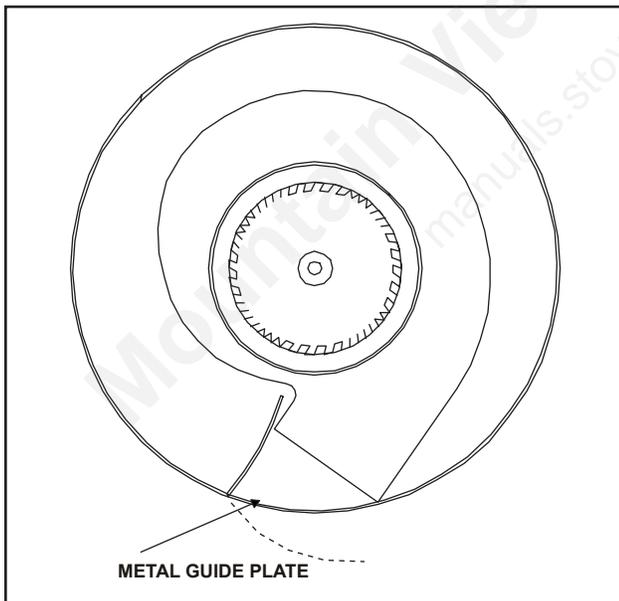

Figure 15.
- B. The metal exhaust guide plate will have to be bent back inside the blower assembly. See Figure 15.